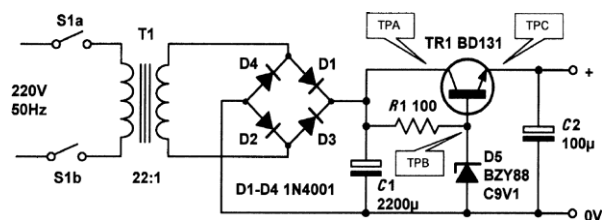

Figure 6.37 See Questions 6.4, 6.5 and 6.6
- 6.4 The circuit of a d.c. power supply is shown in Fig. 6.37. Determine the voltages that will appear at test points A, B and C.
- 6.5 In Fig. 6.37, determine the current flowing in $R1$ and the power dissipated in $D5$ when the circuit is operated without any load connected
- 6.6 In Fig. 6.37, determine the effect of each of the following fault conditions: